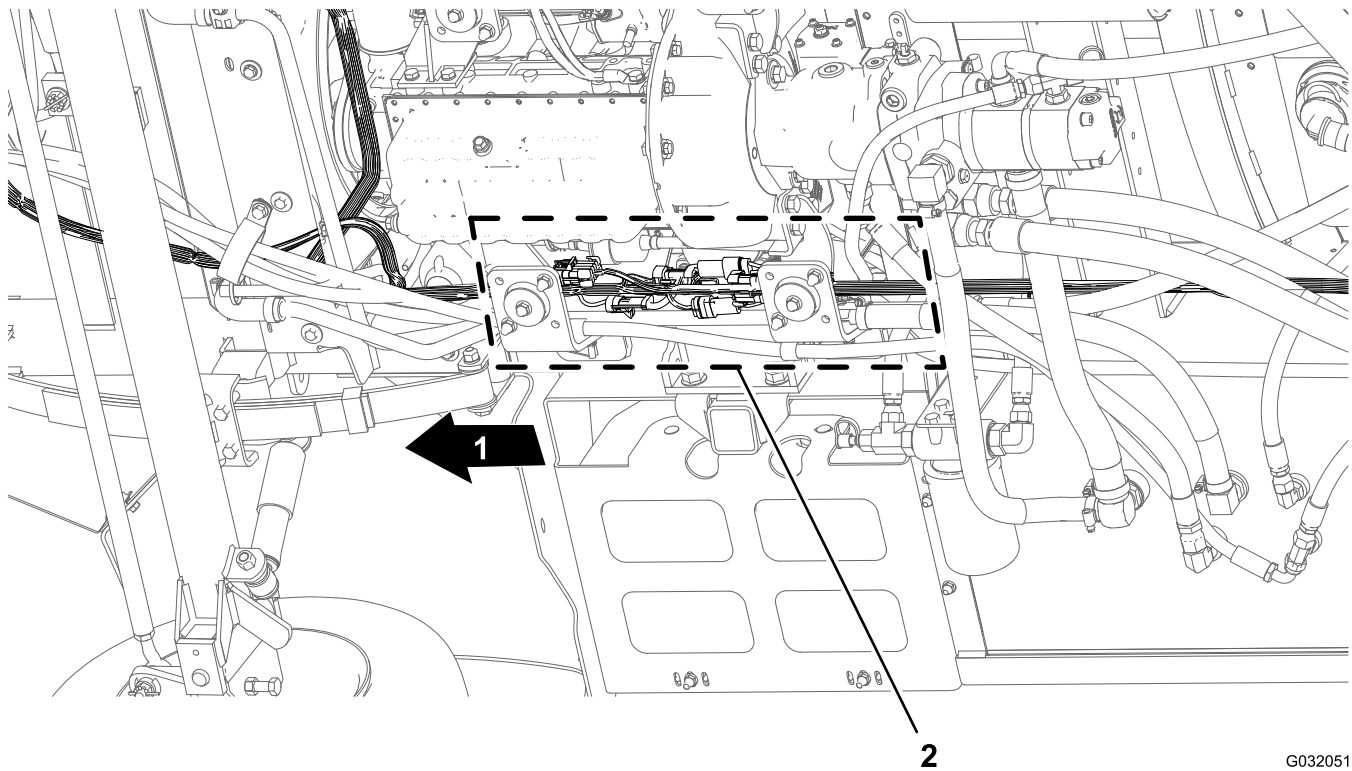

Figure 46
1. From under the machine along the right frame tube, locate the electrical connectors for the front and rear wire harnesses of the machine (Figure 46).